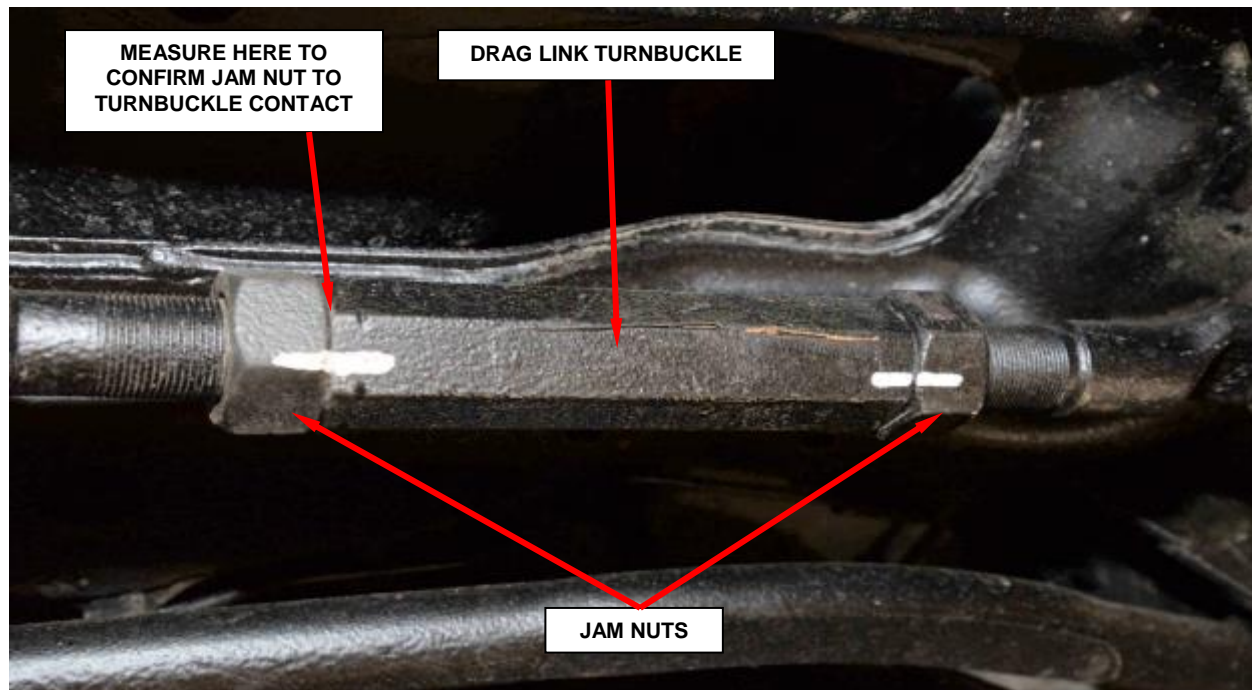

Figure 1 – Mark Jam Nuts and Turnbuckle
2. Using a .020” feeler gauge, confirm jam nut contact to drag link turnbuckle. If no contact is noted, proceed to section **B. Measure Drag Link Assembly Threads** (Figure 1). **Jam nut to turnbuckle gap is not considered separation.**
3. Using a paint pen or equivalent, mark both jam nuts and turnbuckle with lines (Figure 1).